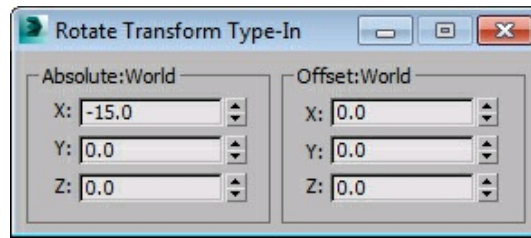
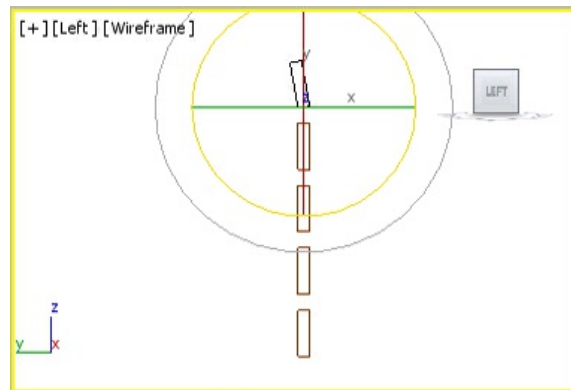

Figure 2-69 The *Rotate Transform Type-In* dialog box
Figure 2-70 The *horizontal back support005* geometry after being rotated in the *Left* viewport
10. In the **Absolute:World** area, set the value **-10** in the **X** spinner, as shown in Figure 2-69 and then press the ENTER key; *horizontal back support005* gets rotated, refer to Figure 2-70. Now, close the **Rotate Transform Type-In** dialog box.